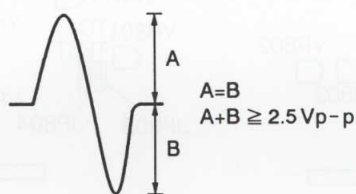

Figure 8
3. While watching the oscilloscope screen, press the PROGRAM key and observe the waveform in Figure 8 for a moment. Verify that the amplitude is at least 2.5Vp-p and that the positive and negative amplitude are about equal. Since the waveform is only output for a moment when the PROGRAM key is pressed, press this key over and over until you have checked the waveform.